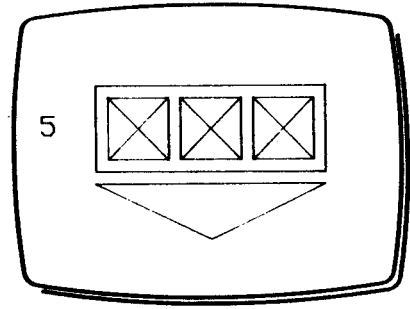

Fig 5
- 6 Using COPY, check that the composite drawing now uses the modified component (Fig 5).